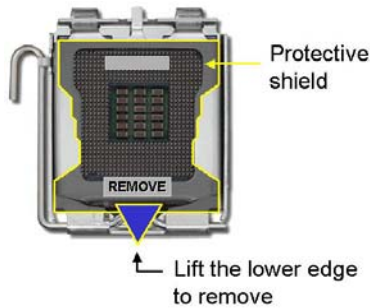

Figure 5-2: Remove the CPU Socket Protective Shield
- Step 1: Remove the protective cover.** Remove the black protective cover by prying it off the load plate. To remove the protective cover, locate the “**REMOVE**” sign and use the fingernail to pry the protective cover off. (See **Figure 5-2**)